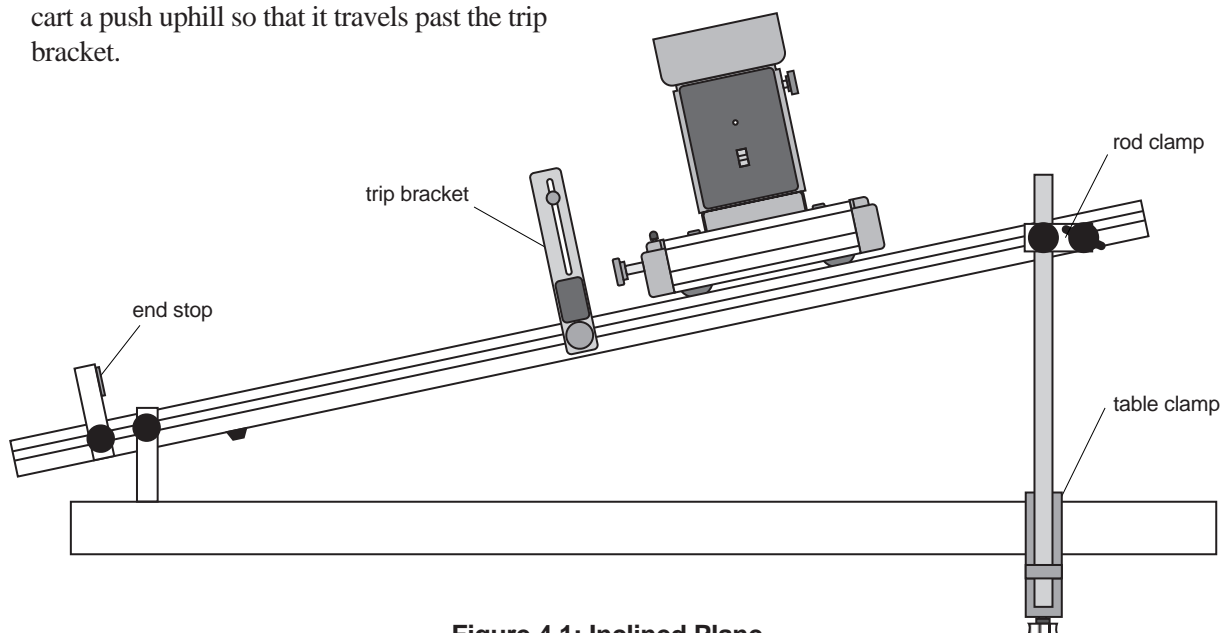

Figure 4.1: Inclined Plane
- ① Prior to the beginning of the demonstration, perform the Setup procedure.
- ② Incline the track using the table clamp and rod. See Figure 4.1. Be careful not to choose too high an angle because the cart will reach such a high speed that it will crash at the bottom. For any angle you choose, be sure you catch the cart at the bottom to keep it from derailing and crashing to the floor.
- ③ Put the photogate trip bracket in a position where it will launch the ball after the cart has begun to move.
- ④ Start the cart at the top of the incline, load the ball, and release the cart. The ball will land in the cart.
- ⑤ Repeat the demonstration for a different angle.
- ⑥ Start the cart at the bottom of the incline. Give the cart a push uphill so that it travels past the trip bracket.